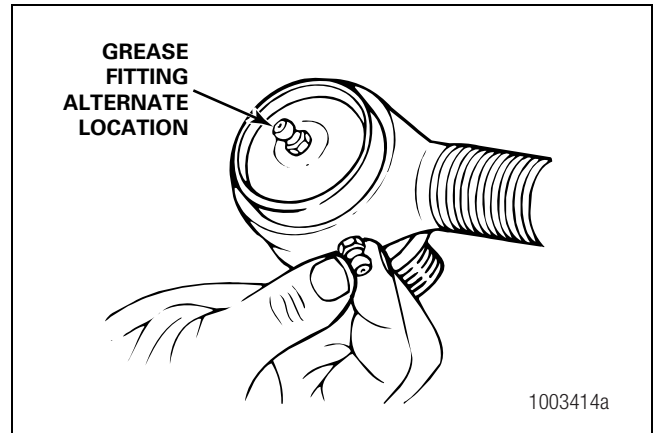

Figure 5.12
1. If a grease fitting is missing, install a new one. Do not install a fitting if the tie rod end is a non-greaseable design. Figure 5.12.